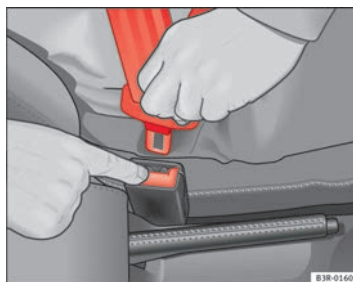

Fig. 15 Removing latch plate from buckle
- Press the red button on the belt buckle ⇒ fig. 15. The latch plate is released and springs out ⇒ ⚠.